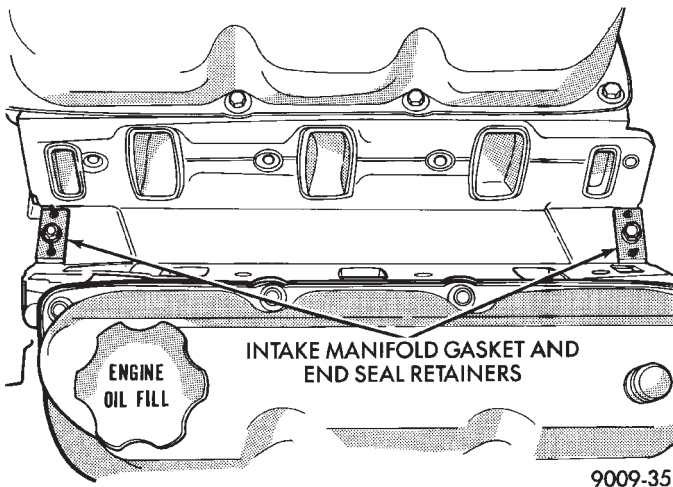

Fig. 36 Intake Manifold Gasket Retainers
(3) Carefully install the intake manifold gasket (Fig. 36). Torque end seal retainer screws to 12 N·m (105 in. lbs.).